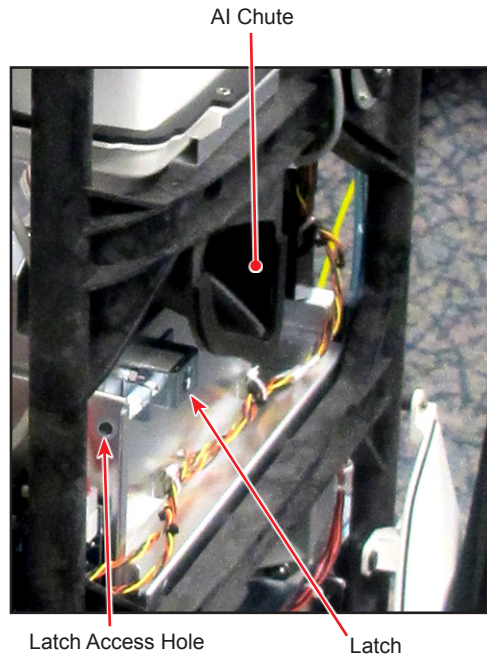

Figure 3-7 Lower Right Panel Latch Release (shown with panel removed)
- 13.4 For original and AS systems: The panel is now held in place by a latch mechanism located just below the AI Chute in the console. The latch release is accessed from the rear through a hole in the sheet metal bracket that the MFIO PCB is mounted on (see Figure 3-7).